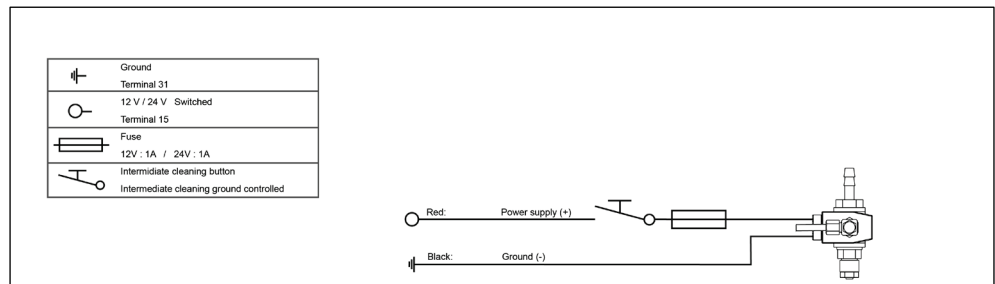
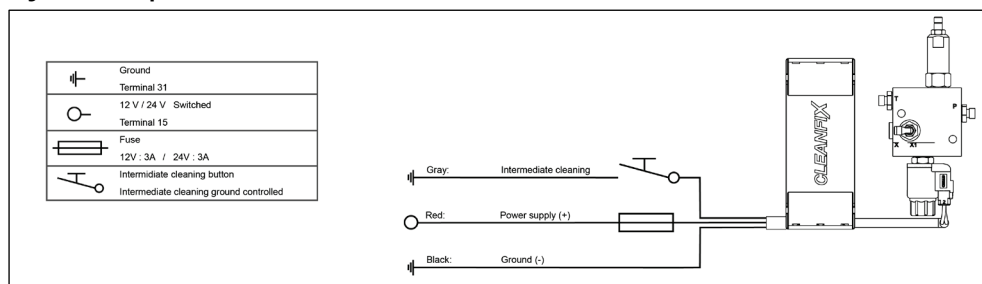

Fig. 65
Fig. 73
If a switched, fused power supply (terminal 15) with sufficient voltage (see Fig. 65 - Fig. 73) is available, it can be used.
- 40) Connect the electronic component to the machine's power supply (see Fig. 65 - Fig. 73).